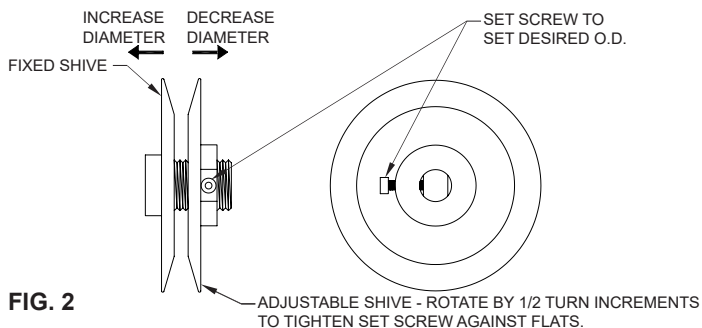

FIG. 2
3. Loosen pulley adjustment set screw on motor pulley and screw adjustable shive out away from fixed shive. Tighten set screw onto flat of fixed screw (See FIG. 2).